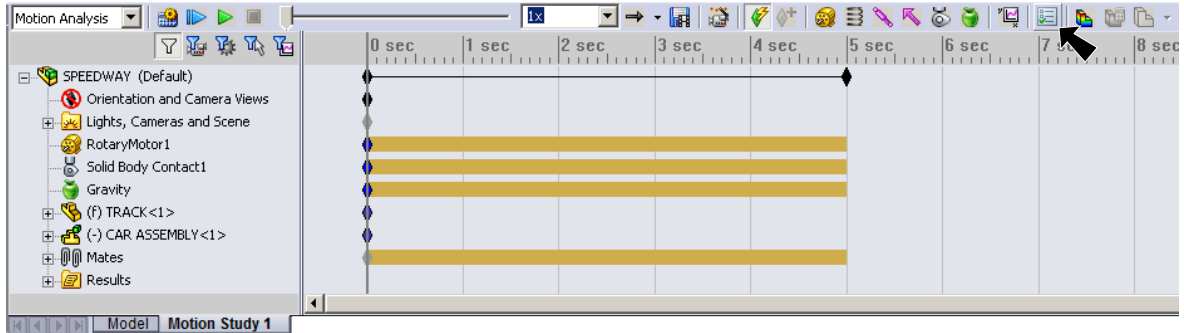

Fig. 19
Step 1. Click **Motion Study Properties**  on the Motion Manager toolbar, **Fig. 19**.